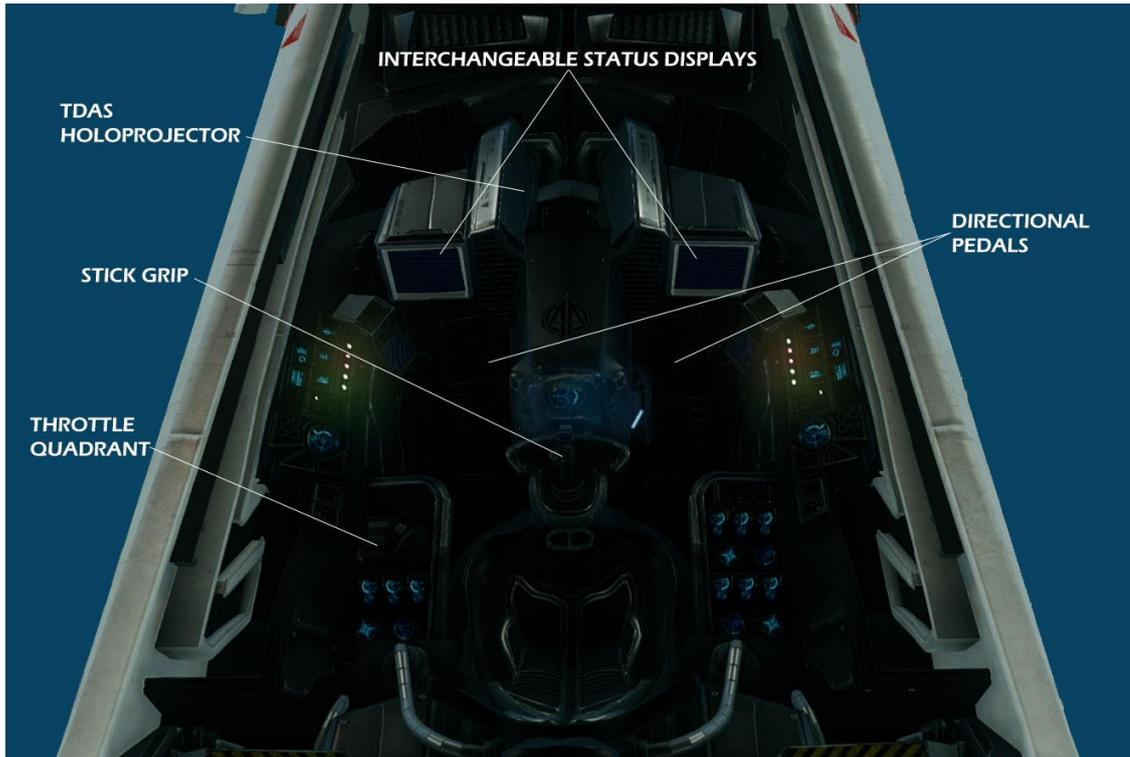
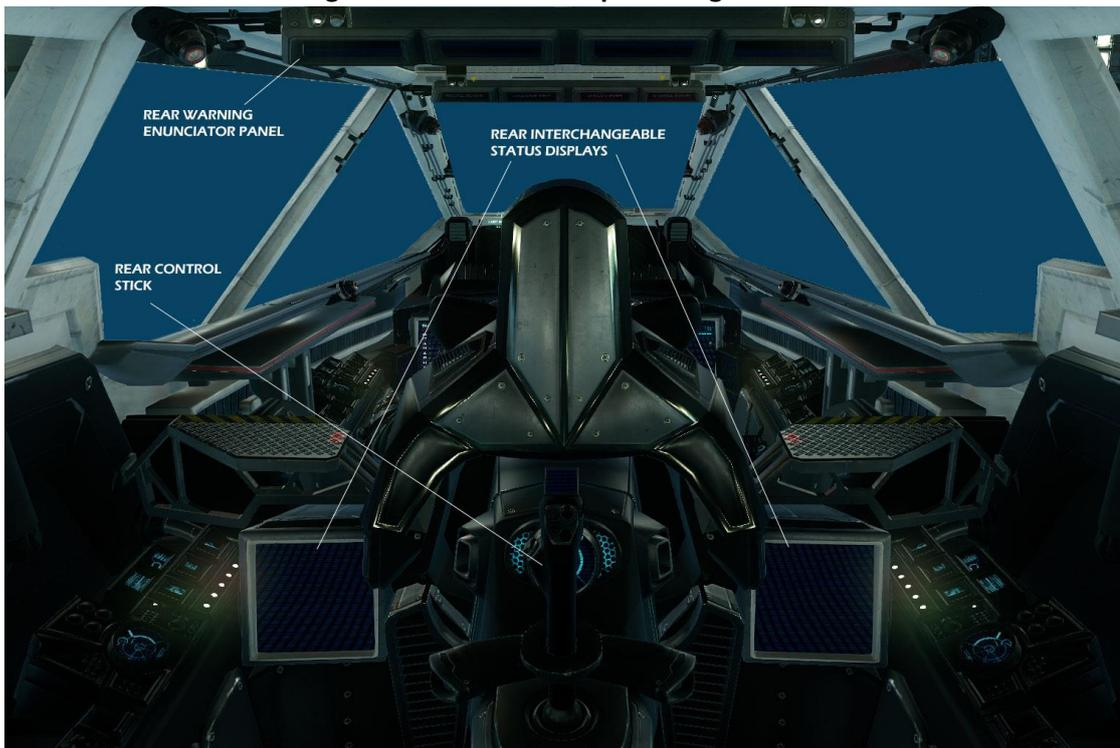

Figure 1-2 Forward Cockpit Arrangement
Figure 1-3 Rear Cockpit Arrangement (F7C-M)
- 1.2.4 Cockpit General Arrangement.** The spacecraft's cockpit general arrangement is shown in figure 1-2. The rear cockpit is shown in figure 1-3 (F7C-M only).